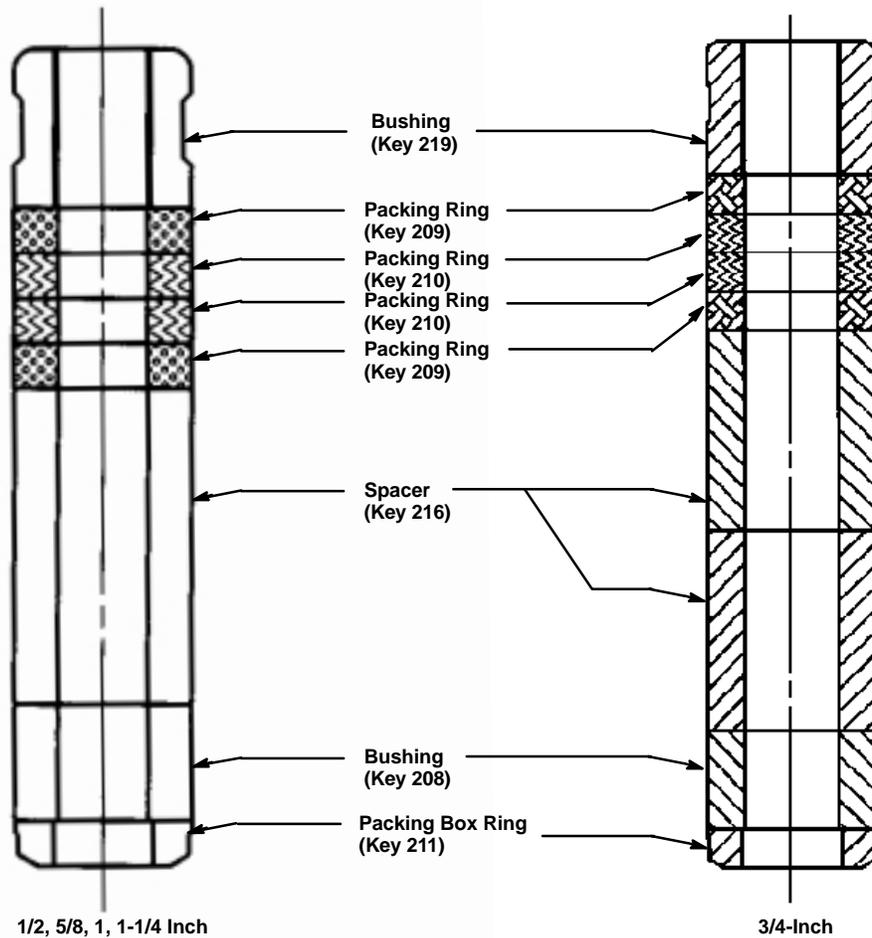

Figure 1. GRAPHITE RIBBON/FILAMENT WITH ONE-PIECE BUSHING
3. Install new packing and the metal packing box parts according to the appropriate arrangement in figure 1. Place a smooth-edged pipe over the valve stem, and gently tap each soft packing part into the packing box, being sure that air is not trapped between adjacent soft parts.
4. Slide the bushing and packing flange (keys 219 and 201) into position. Lubricate the packing flange studs (key 200) and the faces of the packing flange nuts (key 212). Replace the packing flange nuts, but do not tighten.